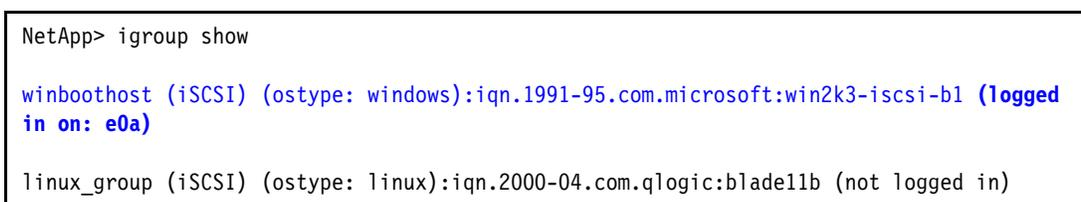

Figure 2-20 Command-line execution for verification
Validate the LUN, I/O group, and LUN mapping configuration performed in the preceding steps, as shown in Figure 2-8 and Figure 2-20 on page 25.
14. Verify host login from storage (Figure 2-20).